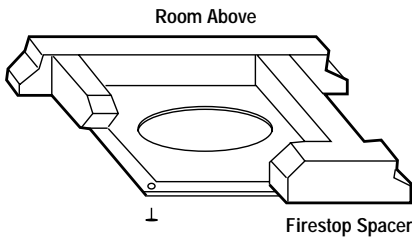

Figure 21
**Step 3.** Position appropriate firestop spacer at ceiling and fasten temporarily with two (2) 8d nails or equivalent. Use flat firestop spacer, Model F8FS-2, if chimney penetrates ceiling vertically. If chimney penetrates ceiling at 30° angle (offset chimney), use 30° firestop spacer, Model F8FS30-2. Use one nail on opposite sides to hold firestop spacer in position. Nail permanently, using at least two (2) more 8d nails, after chimney sections have been assembled through the firestop spacer and after any necessary adjustments have been made. Firestop spacer must be secured by at least four (4) 8d nails when completely installed.
**Note:** If there is a room above ceiling level, firestop spacer must be installed on the bottom side of the ceiling. If an attic is above ceiling level, firestop spacer must be installed on top side of ceiling joist (Figures 21 and 22).